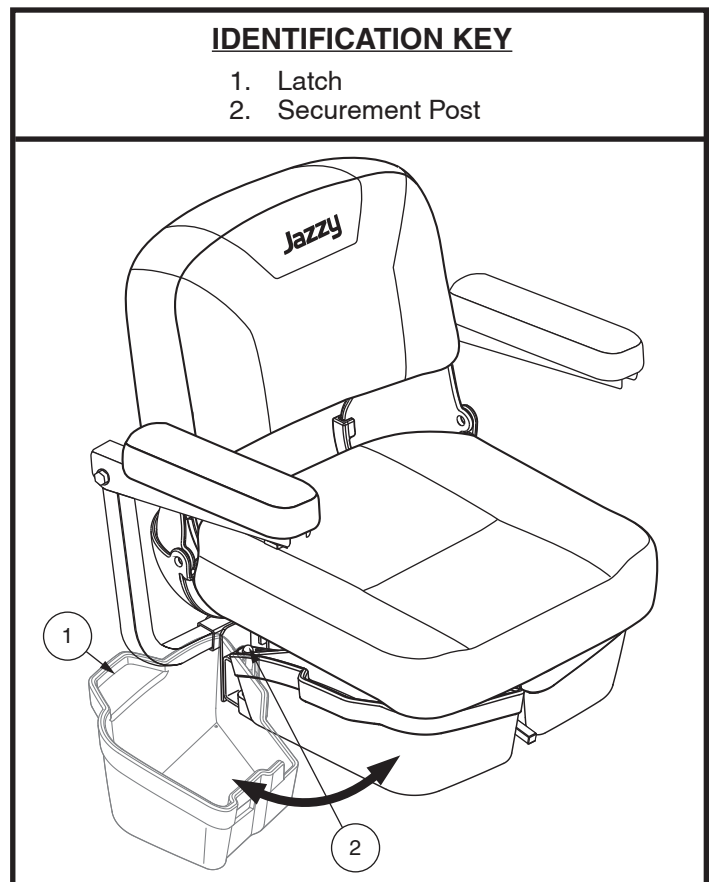

Figure 31. Under-seat Storage
1. Lift up slightly on the latch on the side of the under-seat storage bin (see figure 31) and swing the under-seat storage bin out and away from the Travel Scooter.
1. Lift up slightly on the latch on the side of the under-seat storage bin (see figure 31) and swing the under-seat storage bin out and away from the travel scooter until it is fully open.
2. If equipped, remove under-seat storage. See Figure 31.
7. If equipped, install under-seat storage. **See figure 31.**